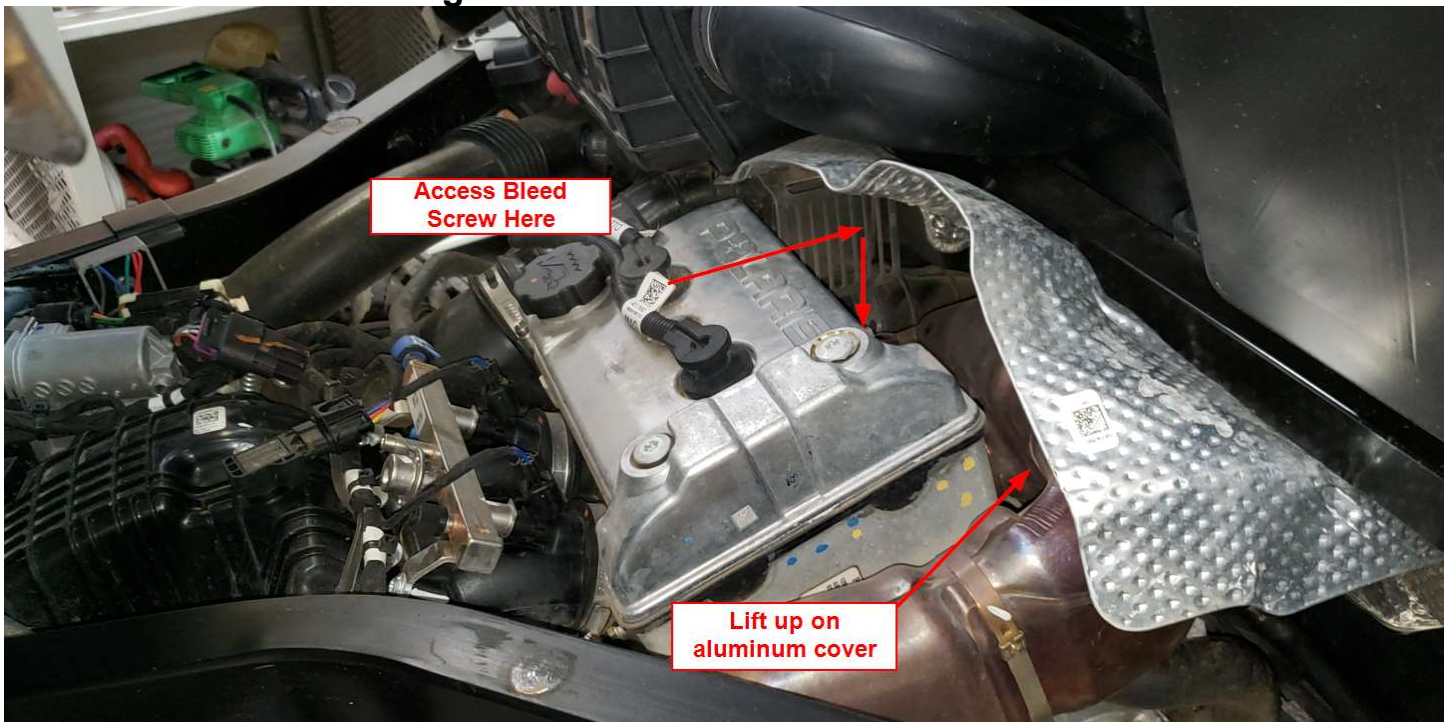
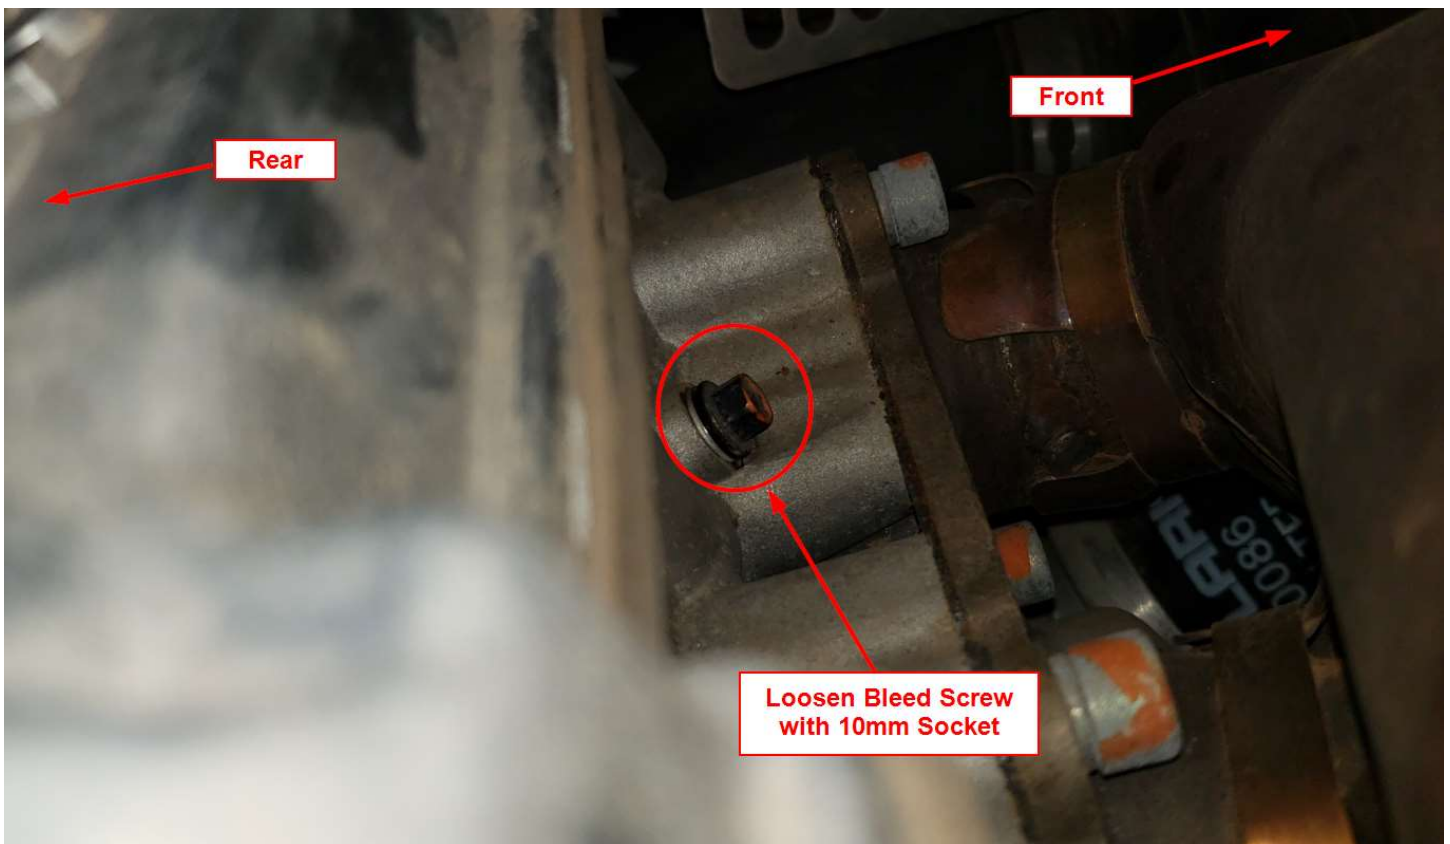

Figure 38
Figure 39
- a. Refill the reservoir at the front of the vehicle using manufacturer approved coolant. Open the radiator cap and fill the radiator completely. Start the vehicle and let it run at idle. Use a 10mm Wrench top the Bleeder Screw located under the aluminum heat shield shown in Figure 38. The Bleeder Screw is located between the two exhaust ports as shown in Figure 39. Open the screw several turns until air bubbles or coolant come out. Keep the screw open until a continuous stream of coolant comes out and no more air bubbles come out. Tighten it back down snug.